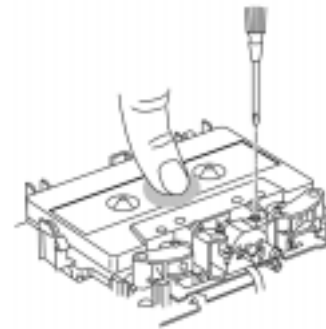

Fig.6
- If you wish to readjust the head azimuth, be sure to adjust with adhering the cassette tape closely to the mechanism by pushing the center of cassette tape with your finger. (shown in Fig.6)